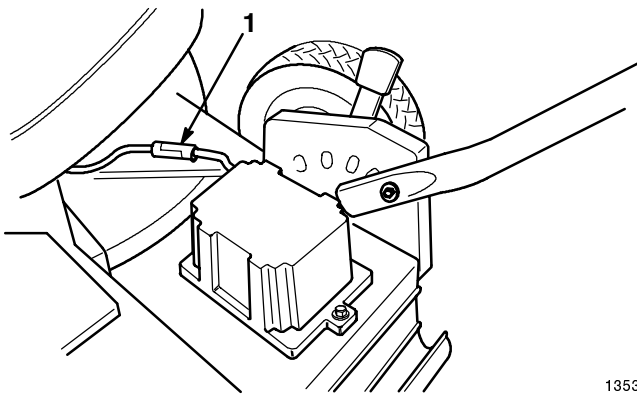

Figure 20
4. Disconnect the leads that connect the starter motor to the battery (Fig. 20).